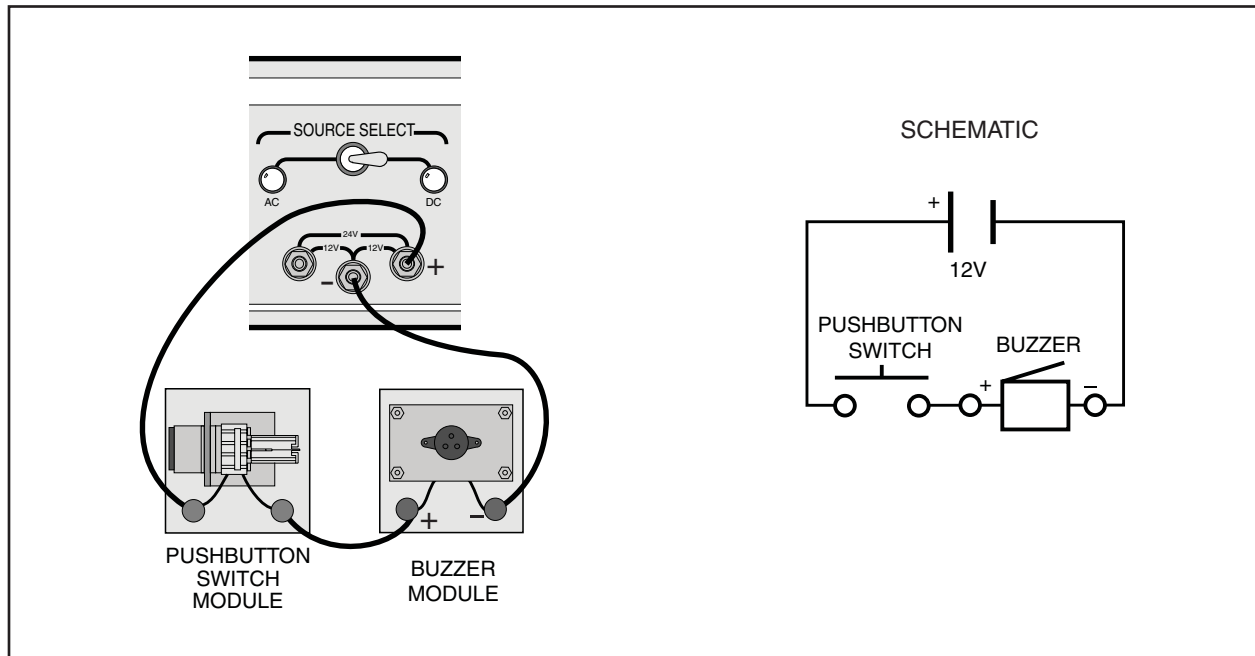

Figure 5-1. A Schematic Diagram and Pictorial of a Circuit with a Pushbutton Switch and a Buzzer
- ❑ 2. Connect the circuit shown in the schematic diagram in figure 5-1. Be sure to observe the polarity of the buzzer when you connect it.